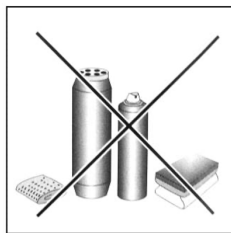

Fig. 2
• Do not use abrasive sponges or cleaning products, these holds true for chemically aggressive cleaners, like oven sprays and stain removers (Fig.2).